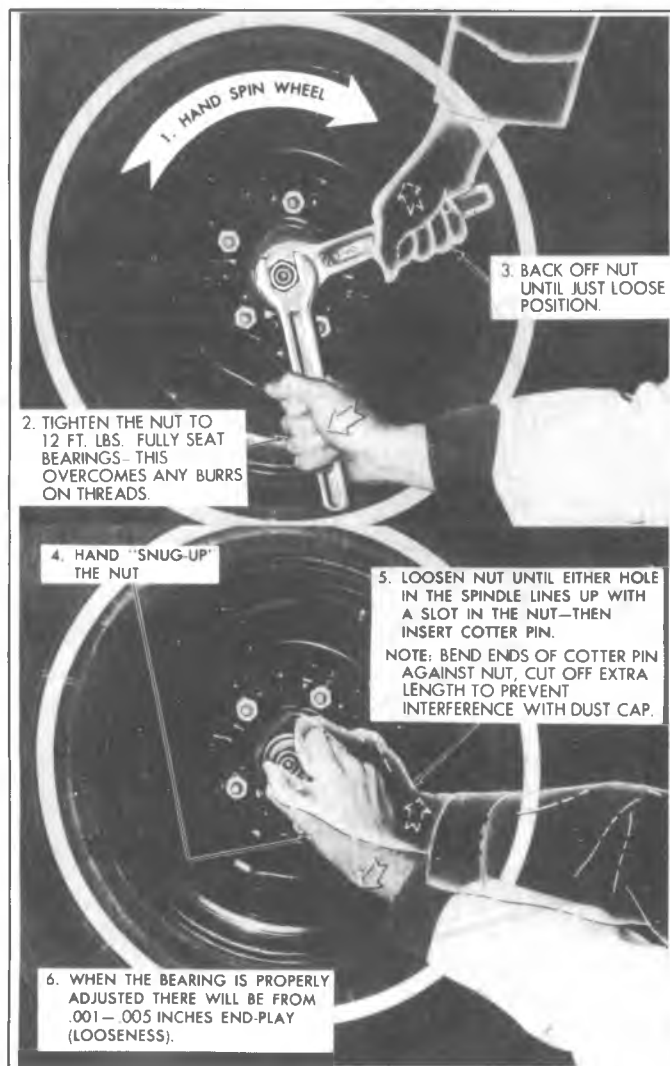

Fig. 3C-3--Wheel Bearing Adjustment
ADJUSTMENT OF WHEEL BEARINGS (FIG. 3C-3)
4. Tighten the spindle nut to 16 N·m (12 ft. lbs.) while turning the wheel assembly forward by hand to fully seat the bearings. This will remove any grease or burrs which could cause excessive wheel bearing play later. See Fig. 3C-3.